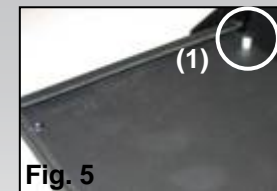
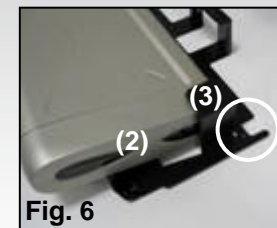

Fig. 5
Fig. 6
- 1) Open the DataBox Allround XL Trolley and the printer lid. There are two holders on the rear side of the printer lid (Fig. 5 (1)). These are designated „QuickFix“ mounts.
- 2) The printer must first be shoved into the „QuickFix“ holder (Fig. 6 (2)). Please make sure that the printer is safely mounted in the holder. The holder with the printer is then placed on the printer lid and connected to the other holders (Fig. 5 (1)). In doing so, the grooves of the „QuickFix“ holder (Fig. 6 (3)) must be fully inserted into the holders on the printer lid.